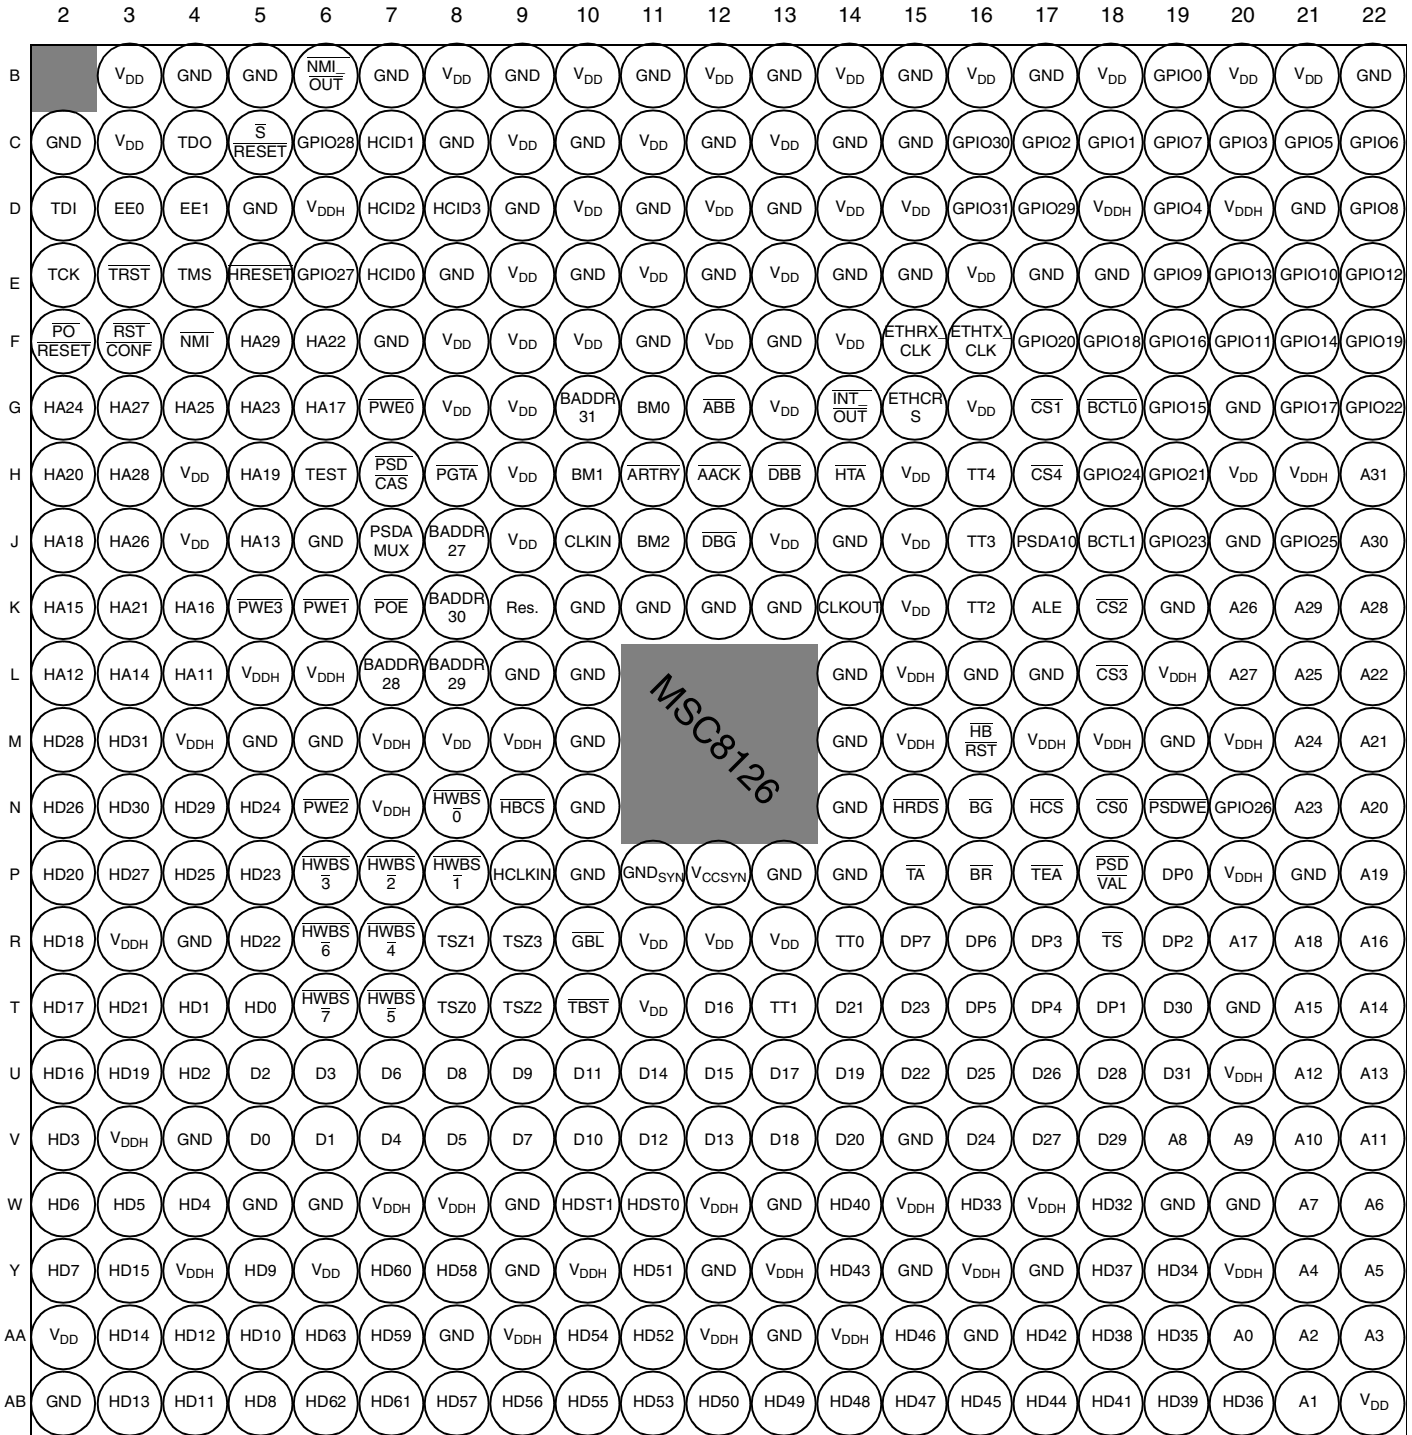
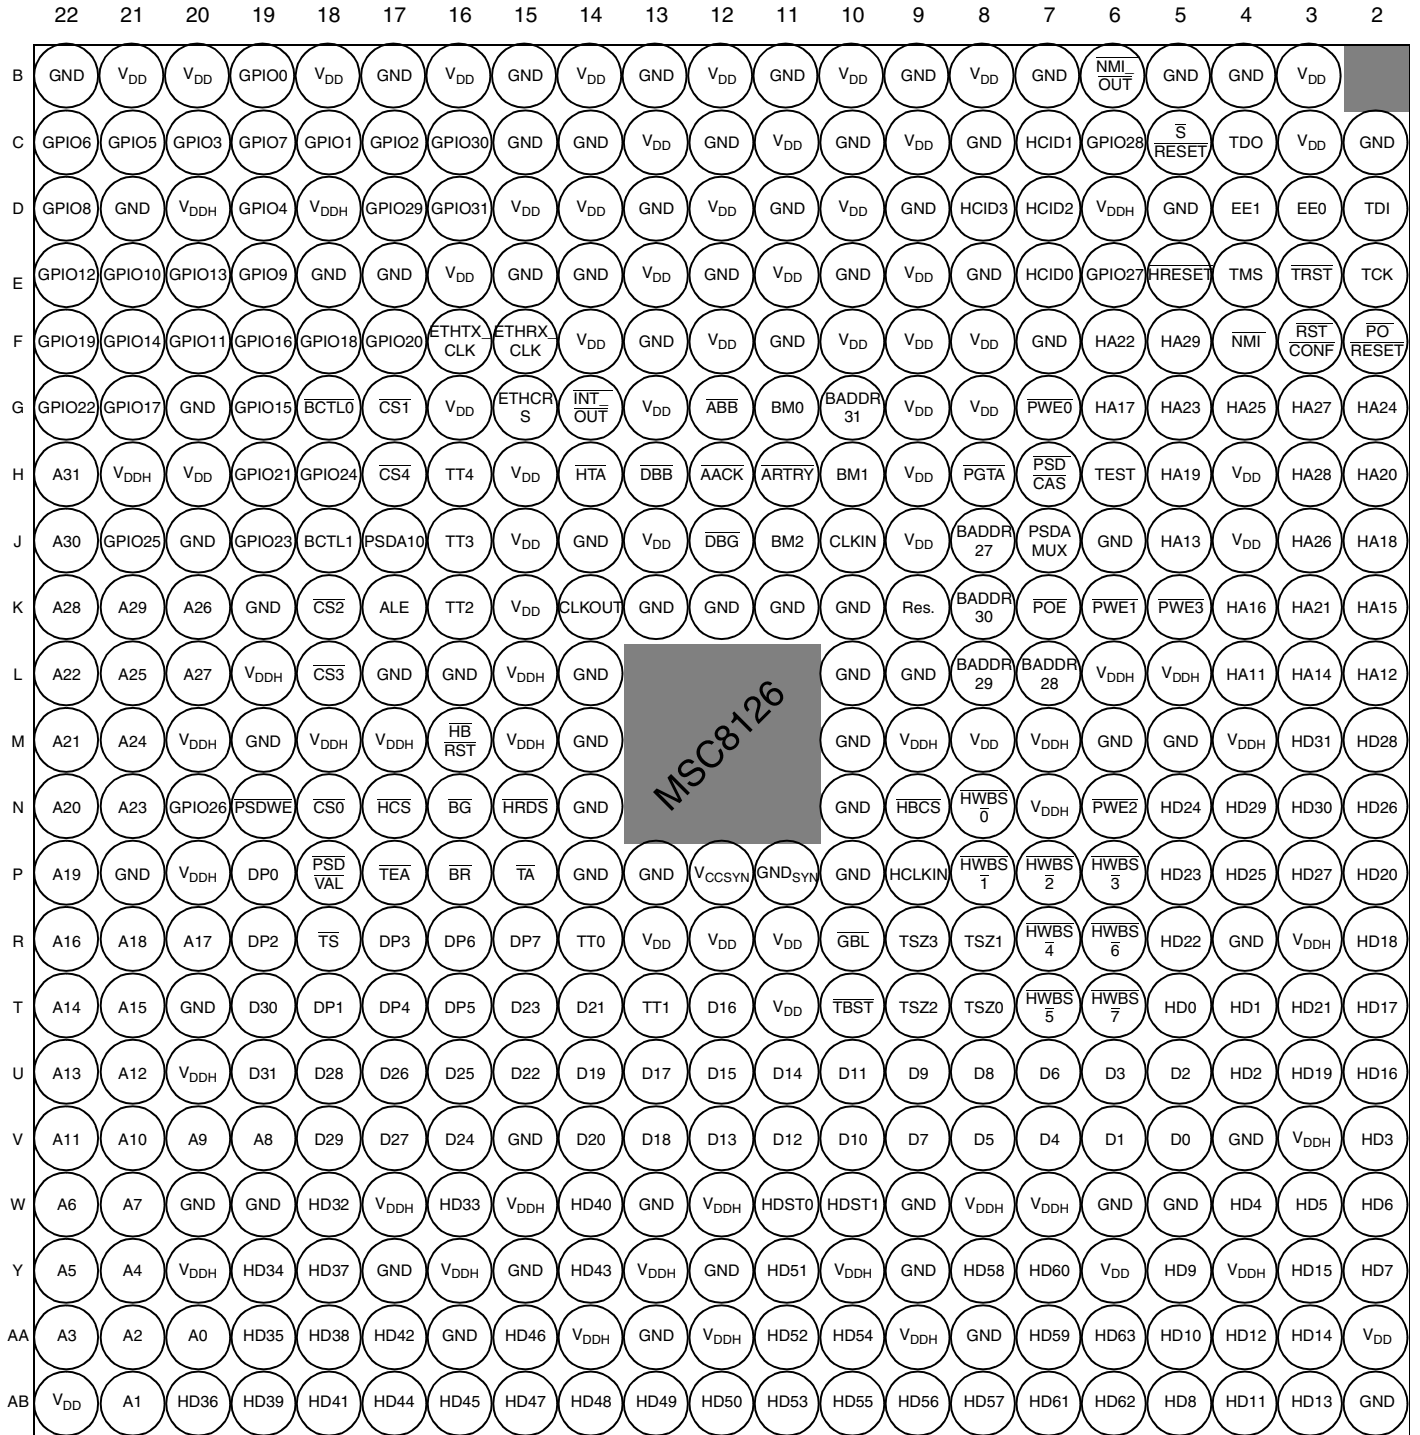

Figure 3-1. MSC8126 Package, Top View
Figure 3-2. MSC8126 Package, Bottom View
**Figure 3-1** and **Figure 3-2** show top and bottom views of the package, including pinouts. To conform to JEDEC requirements, the package is based on a  $23 \times 23$  position ( $20 \times 20$  mm) layout with the outside perimeter depopulated. Therefore, ball position numbering starts with B2. Signal names shown in the figures are typically the signal assigned after reset. Signals that are only used during power-on reset (SWTE, DSISYNC, DSI64, MODCK[1–2], CNFGS, and CHIP\_ID[0–3]) are not shown in these figures if there is another signal assigned to the pin after reset. Also, there are several signals that are designated as  $\overline{\text{IRQ}}$  lines immediately after reset, but represent duplicate  $\overline{\text{IRQ}}$  lines that should be reconfigured by the user. To represent these signals uniquely in the figures, the second functions (BADDR[29–31], DP[1–7], and  $\overline{\text{INT\_OUT}}$ ) are used.